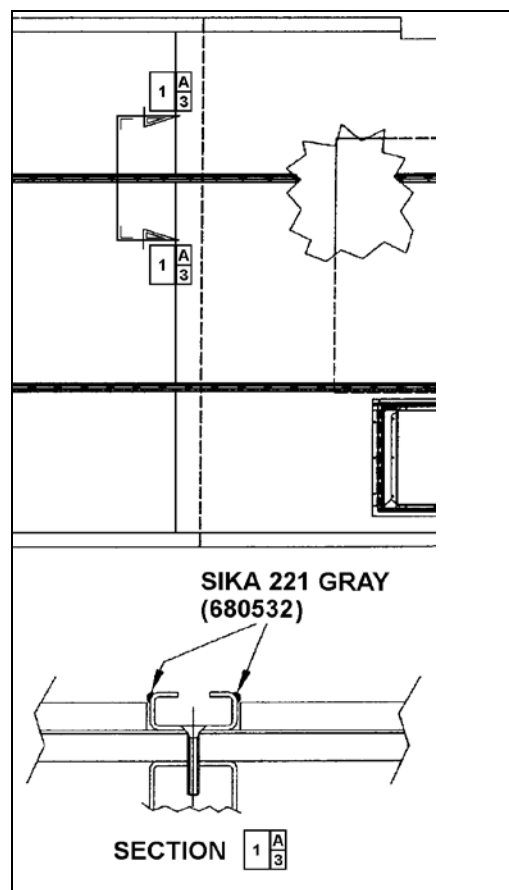

FIGURE 81: APPLICATION OF SIKA 221 GRAY
8. Apply Sikaflex 221 gray sealant (680532) alongside passenger seat fixing tracks (refer to Figure 81).